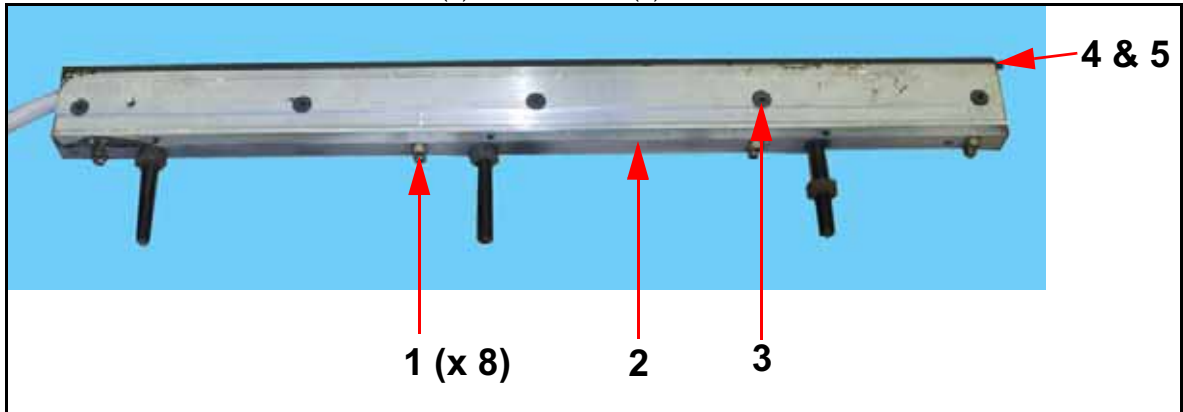

Figure 7-33. Seal Bar Disassembly
- 5 Unscrew eight top bar screws (1 in Figure 7-33) and remove top bar (2).
- 6 Unscrew five side bar screws (3).
- 7 Slide blade (4) and inserts (5) out of seal bar.